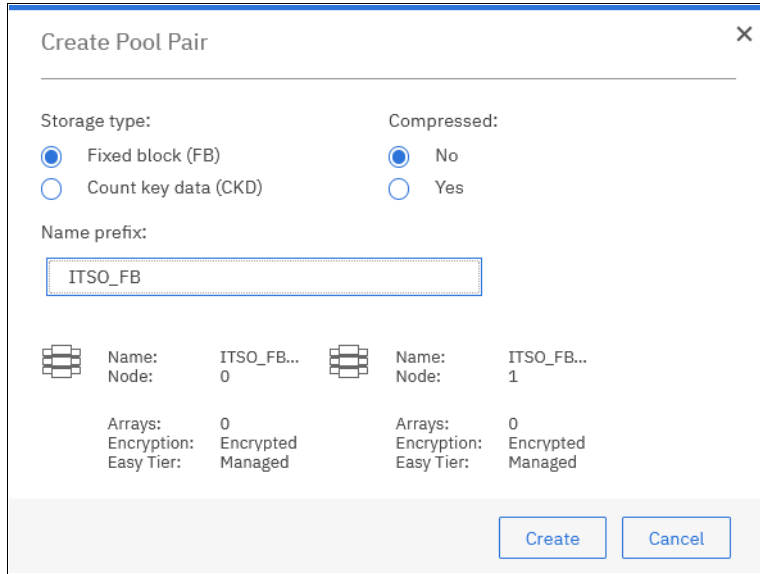

Figure 9-37 Creating an FB pool pair
3. Specify the pool pair parameters, as shown in Figure 9-37 on page 256:
- Storage type: Ensure that **Open Systems (FB)** is selected.